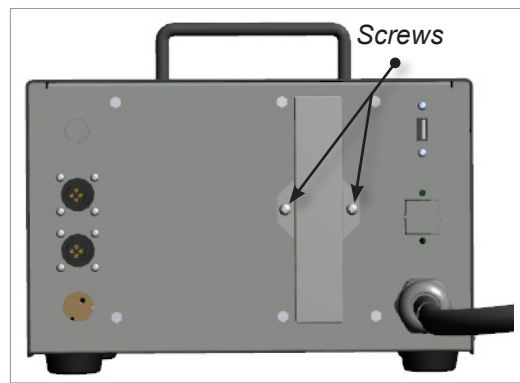

Figure 7-1 Remove screws
1. Remove the four screws from the cover plate at the back of the controller. See Figure 7-1.